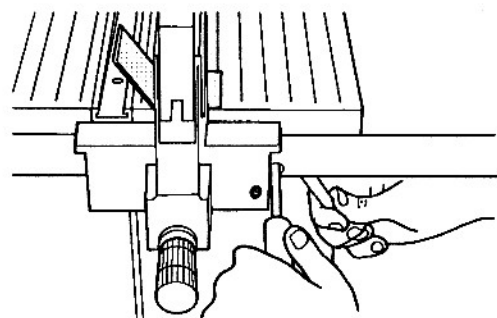

Fig. C-4
6. Use a 7/16" wrench and medium Phillips screwdriver to tighten the screw and hex nut attaching the fence tube to the right front side of the table, as illustrated in Fig. C-4.